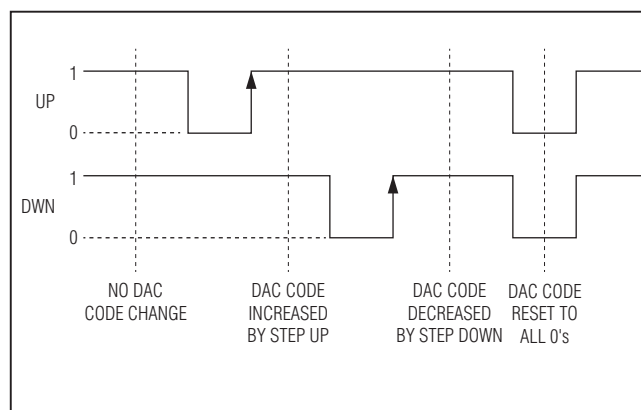

Figure 3. UP/DWN Control Diagram (Mode = 1)
in Figure 1. This is applied to the 10-bit DAC register that drives the DAC. To increase (decrease) the code using the UP (DWN) pin, the DWN (UP) pin must be high and the UP (DWN) pin should be pulsed low to high. The part is designed to produce no wraparounds when using UP and DWN stepping, so the DAC code maxes out at 1023 or goes no lower than 0. See Figure 3 for the UP and DWN control operation.